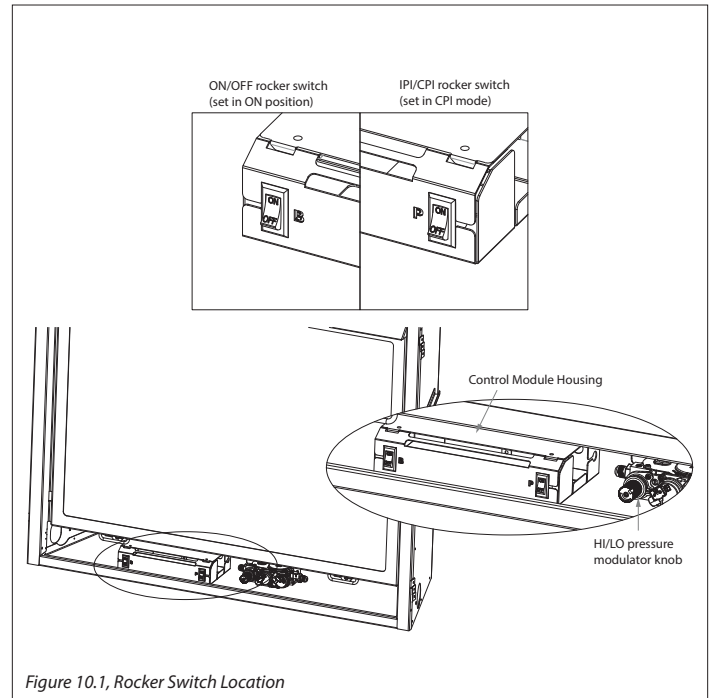

Figure 10.1, Rocker Switch Location
There are (2) rocker switches located on the gas valve housing in the control compartment. You will need to remove the bottom frame to access this. The main burner rocker switch is marked 'B' and the IPI/CPI pilot rocker switch is marked 'P'. See section Figure 10.1.
10.1.1.1 7 Day Time-out installations (LE)
NOTE: Figure 10.1 shows the CPI/IPI mode control switch (pilot rocker switch, marked 'P') is already in the ON position. It has first to be turned OFF, then back ON, to re-activate the CPI mode together with the the 7 day Time-out counter.